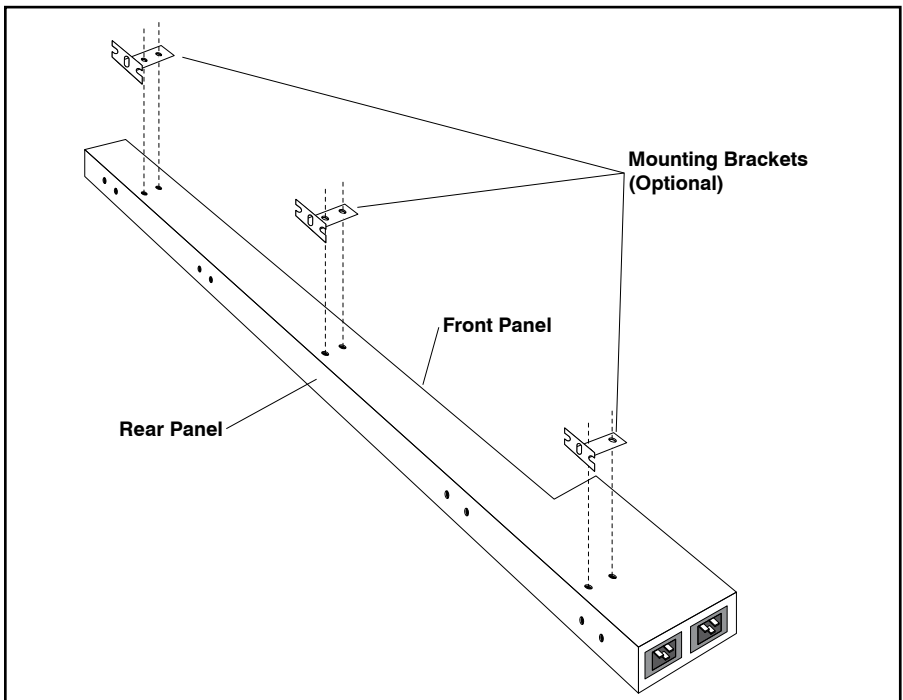

Figure 5: Installing Optional Mounting Brackets
1. **Attaching the Mounting Brackets to the NBB:** The Mounting Brackets can be attached to the NBB unit using the three pairs of screw holes on either side of the NBB unit. Use screws supplied with the Mounting Bracket kit to secure three Mounting Brackets on one side of the NBB unit as shown in Figure 5 below.